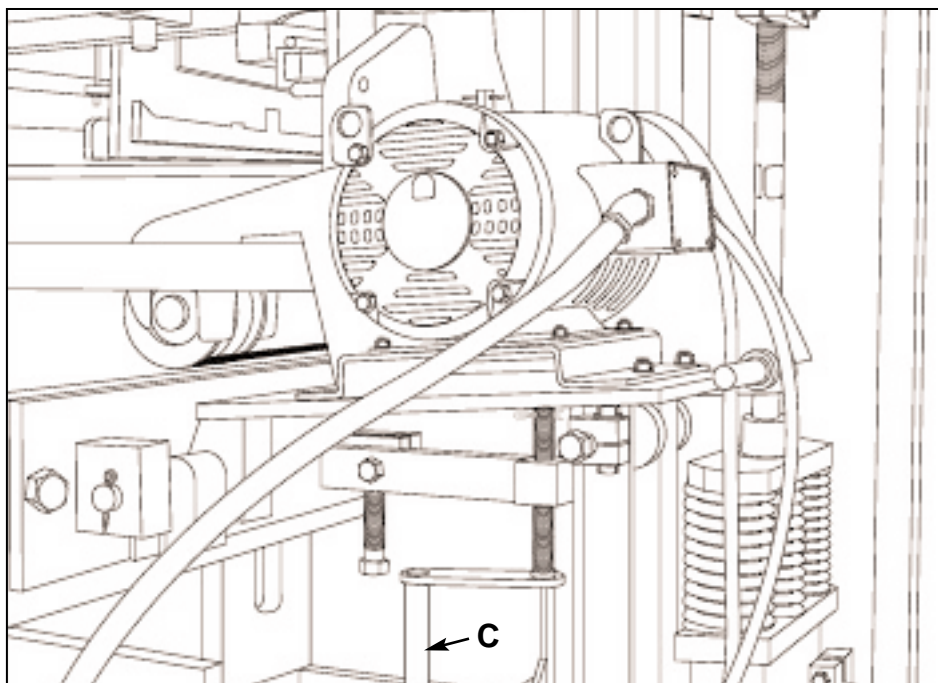

Figure 5.5 RAISING THE VIBRATOR MOTORS WITH SCREW JACK (C).
5.3.23 Raise both vibrator motors with screw jacks (C) (see figure 5.5).